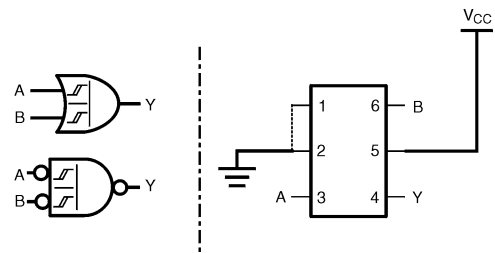

Figure 12. 2-Input OR Gate
4. CPD is defined as the value of the internal equivalent capacitance which is derived from dynamic operating current consumption (ICCD) at no output loading and operating at 50% duty cycle. (See Figure 12) CPD is related to ICCD dynamic operating current by the expression: ICCD = (CPD) (VCC) (fIN) + (ICCstatic).